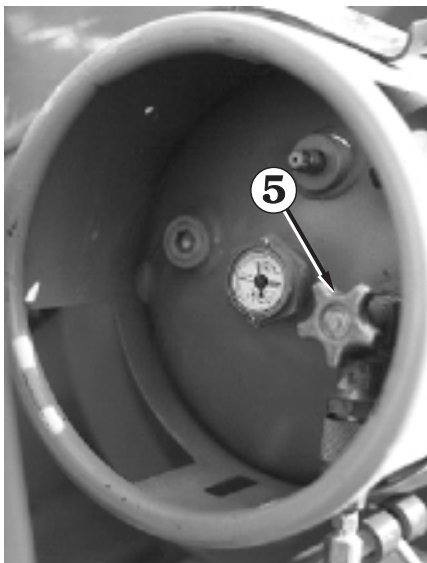

Figure 10.9
Close the valve ❺ (see Figure 10.9) on the LPG tank (completely screwed in).